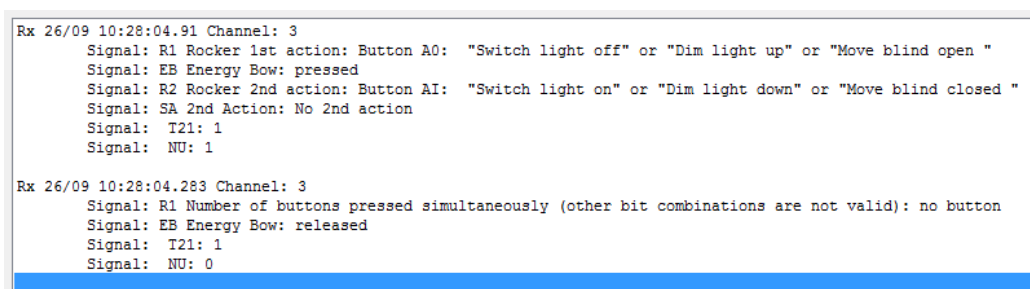

Figure 5.11 Processed log data
4. Log processed data: When active the Tx or RX data is shown as described in the XML file (Figure 5.11).